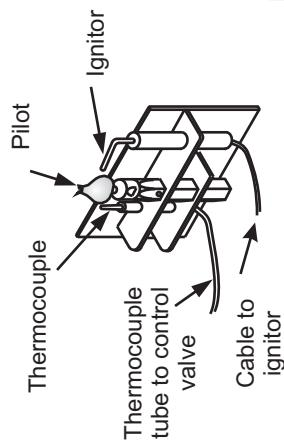

Fig. 2
- To light the appliance manually first light a match or barbecue lighter. Push the control knob in and turn it anticlockwise to the ignite position whilst holding the knob pushed in. Whilst still holding the knob in, offer the lit match or barbecue lighter up to the pilot light ( see Fig. 2). This will ignite the pilot. Once the pilot is lit follow the instruction above to ignite the fireplace burner and adjust the heat setting.